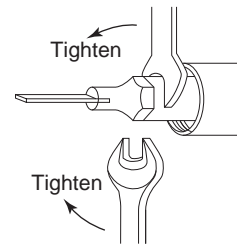

Fig. 9
Attach the Tip Holders ⑮ or the M4 Screw Joint Adapter ⑰ to the Handpiece ② and clamp tightly using two provided wrenches. (Fig. 9).